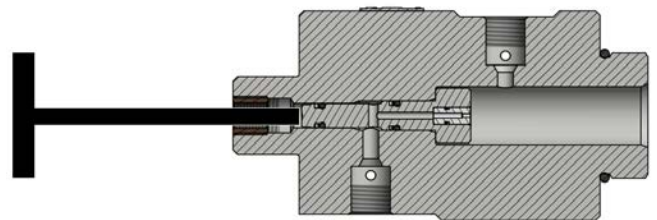

Figure 3 – Internal Parts Removal
- 8.4 Slowly push the seat holder assembly out of the body, see Figure 3. - *1/4" Rod OR 1/4" Hex Key Wrench OR Similar Tool*